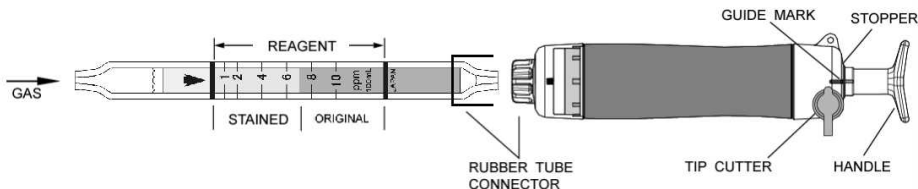

Fig.1
- ① Break both ends of the detector tube.
- ② Insert the detector tube into the aspirating pump securely as shown in Fig.1. (Arrow mark shall point to the pump.)
- ③ Align the guide marks on the shaft and stopper of the aspirating pump.
- ④ Pull the pump handle at a full stroke until it locks and wait for 1 minute or until the completion of sampling is confirmed with the flow indicator of the pump. (See descriptions about the flow indicator in the instruction manual of the pump.)
- ⑤ On completion of sampling, read the scale at the maximum point of the stained layer.
- ⑥ When the concentration is over the scale range, a 1/2 pump stroke can be used to determine concentrations of 2 to 20 ppm. Then multiply the reading value by 2.
- ⑦ When the concentration is below the 2ppm, 2 pump strokes can be used to determine concentrations of 0.5 to 2 ppm. Then multiply the reading value by 0.5.